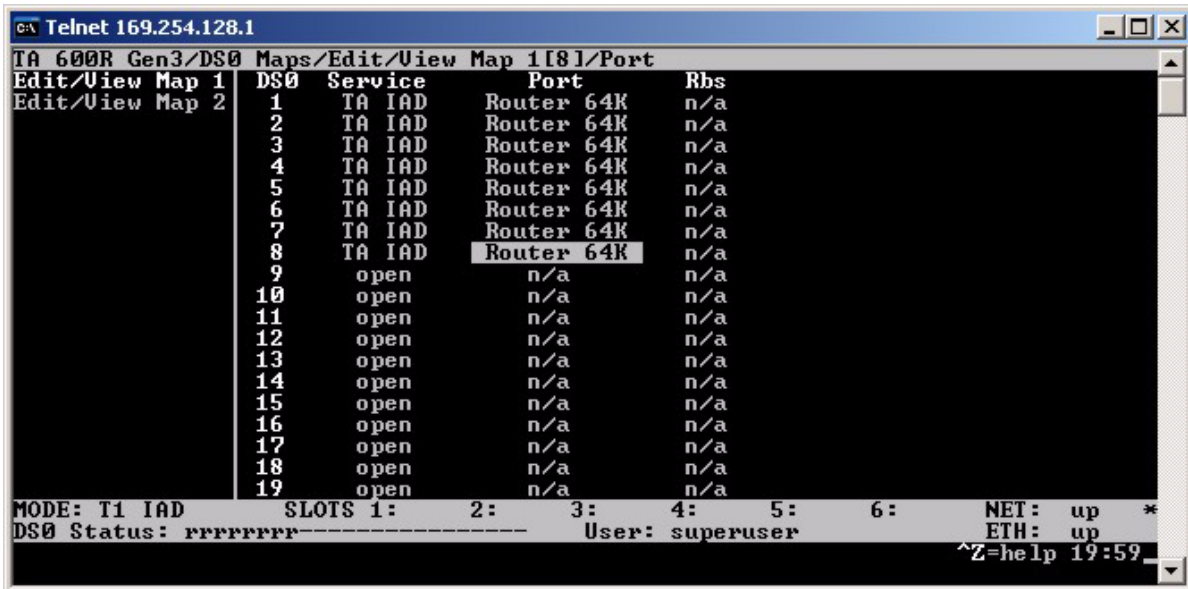

Figure 101: Mapping multiple DS0s
10. Use this process to configure the number of channels indicated on your FSO. Figure 101 illustrates eight channels configured.